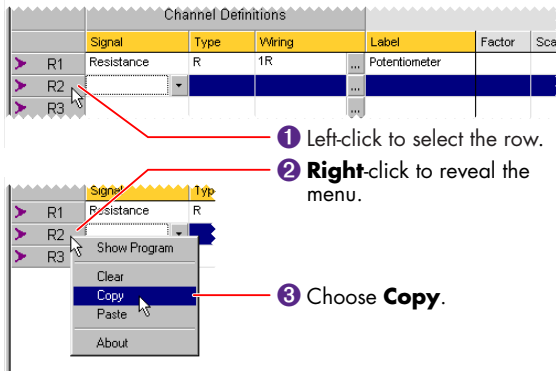

FIGURE 57 Select R2, copy, and paste into R3
- Select all of row **2** by clicking its **row label** (the gray box containing **R2**) — see Figure 57.
- Now **right-click** the row label of row **2**. A menu appears (Figure 57).
- e) On tab A of the program builder, use the right-button copy and paste method (see Figure 57 on page 57) to copy row 1 to row 5.